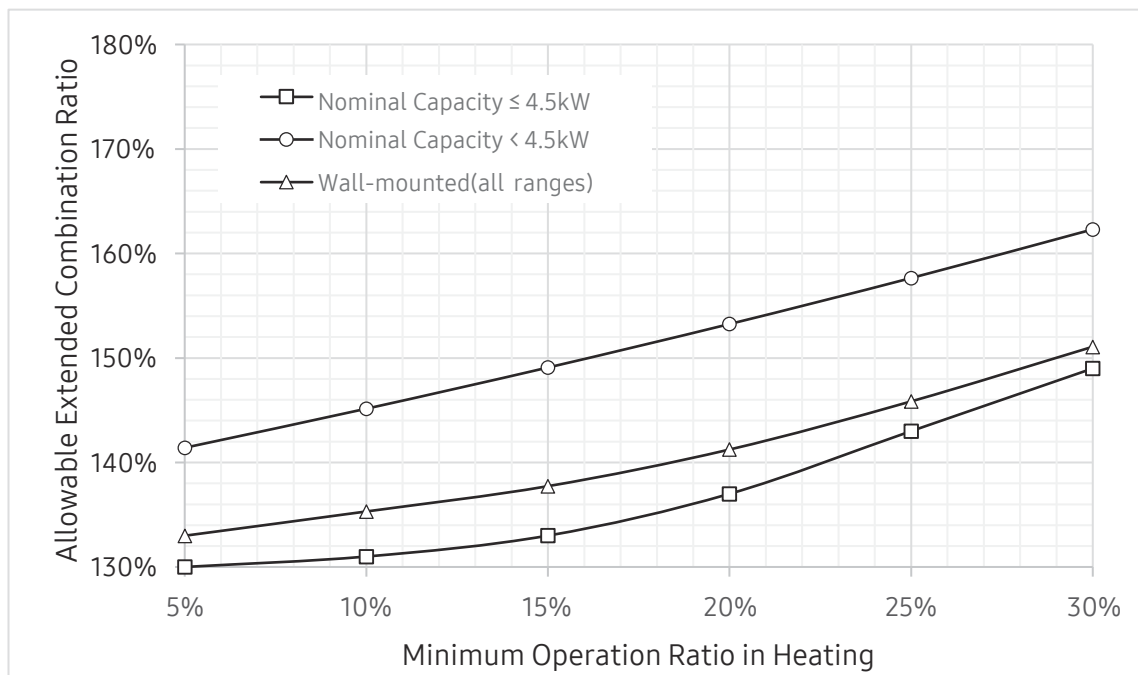

Fig. 2 Allowable CR with respect to indoor unit type as operation ratio increases
The Minimum Operation Ratio should be determined during the project design stage using Fig. 2.
- Samsung is not responsible for any issue, including abnormal noise that arises during heating operation due solely to the operation rate being lower than the designated combination ratio shown in Fig. 2. Please contact your local Samsung representative for further details if the project requires you to design the project with a connection ratio greater than 130%.